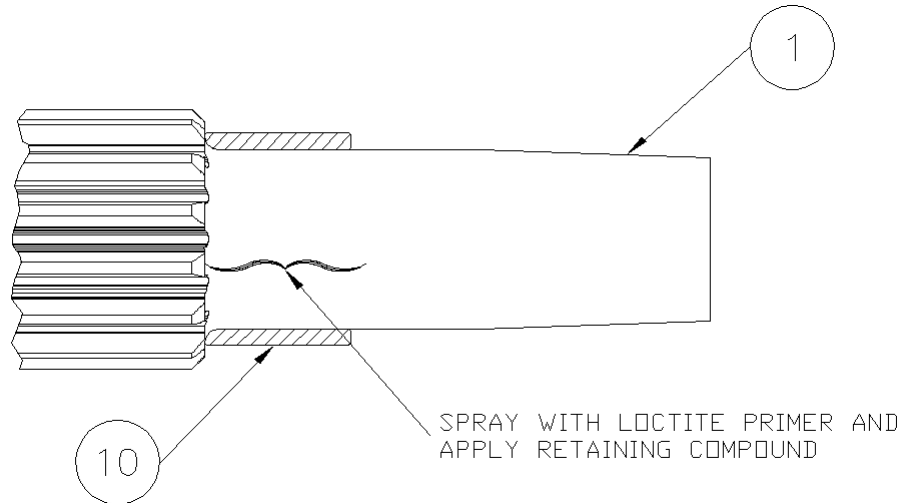

Figure 11.
3. Thoroughly clean the pinion shaft (1) (Figure 11) and inner races (10) with a mild solvent and dry completely. Spray the inner race contact area (shown in Figure 11) at each end of the pinion shaft and the inside diameter of the inner race thoroughly with LOCTITE 7649 N PRIMER. Apply LOCTITE RETAINING COMPOUND 609 around the pinion shaft at contact area and the inside diameter of the inner races. Slide the inner races (10) on the pinion shaft (radius end first as shown in Figure 11) until the races seat against the gear teeth. After the races seat against the gear teeth, twist the races on the pinion 360° to spread the retaining compound evenly. Wipe off any excess retaining compound.